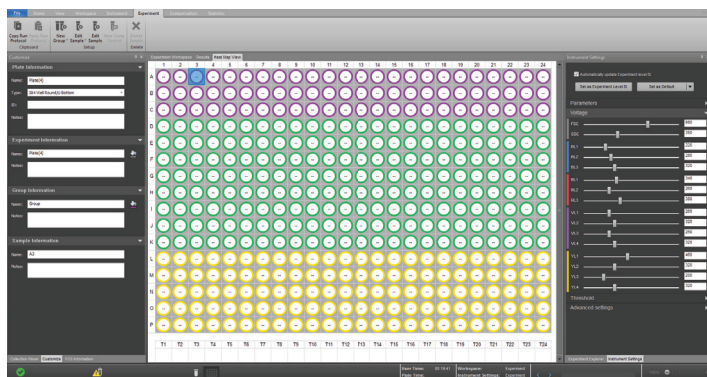

Figure 26. Example of a 384-well heat map.
- Compatible with many different plate formats, including 96-well, 384-well, and deep-well plates (Figure 26)